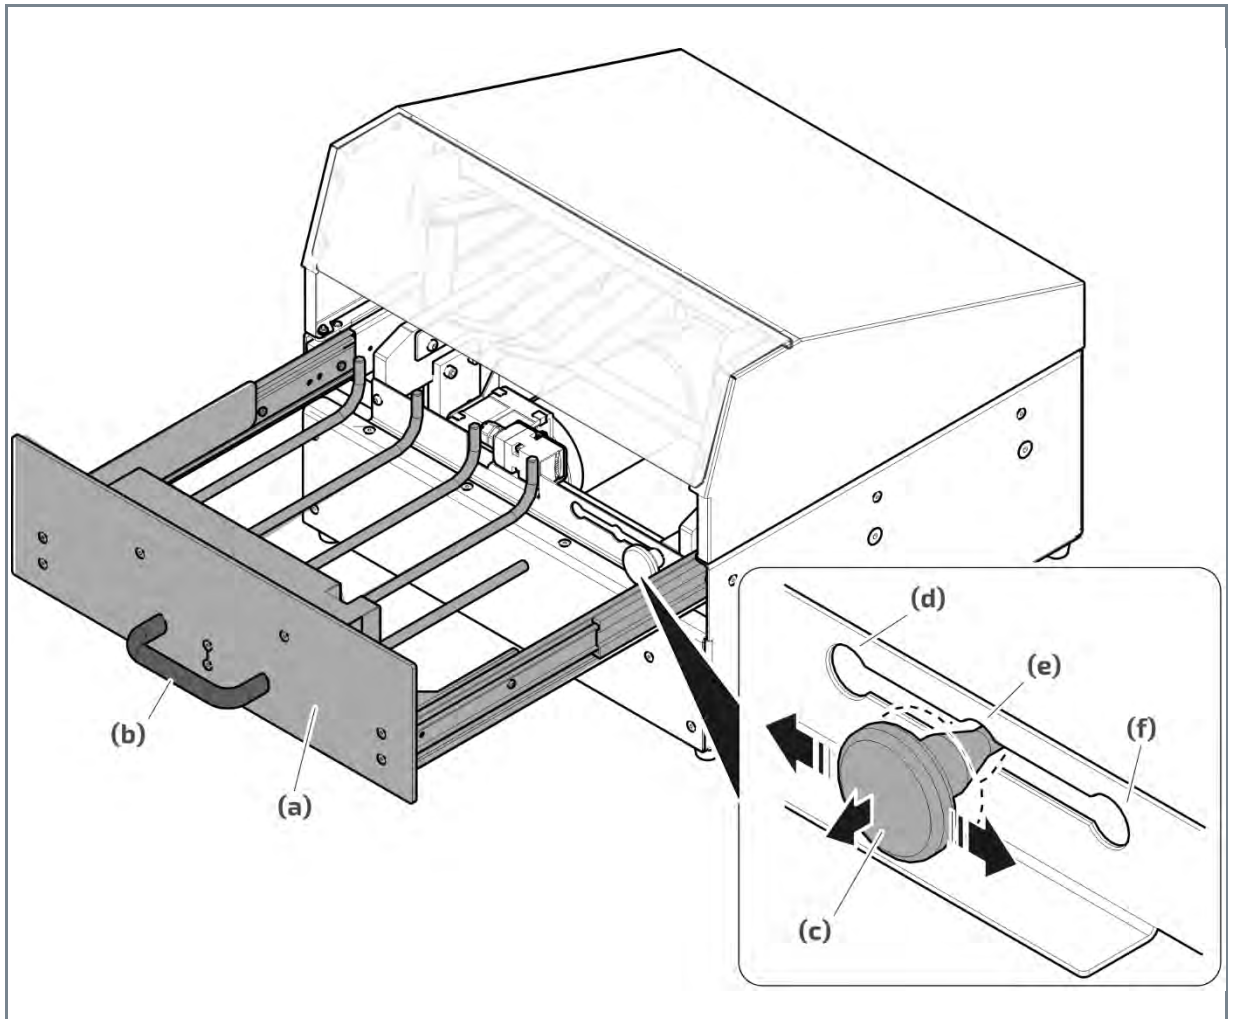

Fig. 5 Adjusting the clamping bar
1. Use the handle **Fig. 5 (b)** to pull the drawer **Fig. 5 (a)** completely out of the housing.
2. Pull the lever **Fig. 5 (c)** and move the clamping bar into the recess of the appropriate size of the blank to be used:
- Sheet size 1 (small) **Fig. 5 (d)**: 300 mm x 350 mm
- Sheet size 2 (medium) **Fig. 5 (e)**: 300 mm x 430 mm
- Sheet size 3 (large) **Fig. 5 (f)**: 400 mm x 530 mm